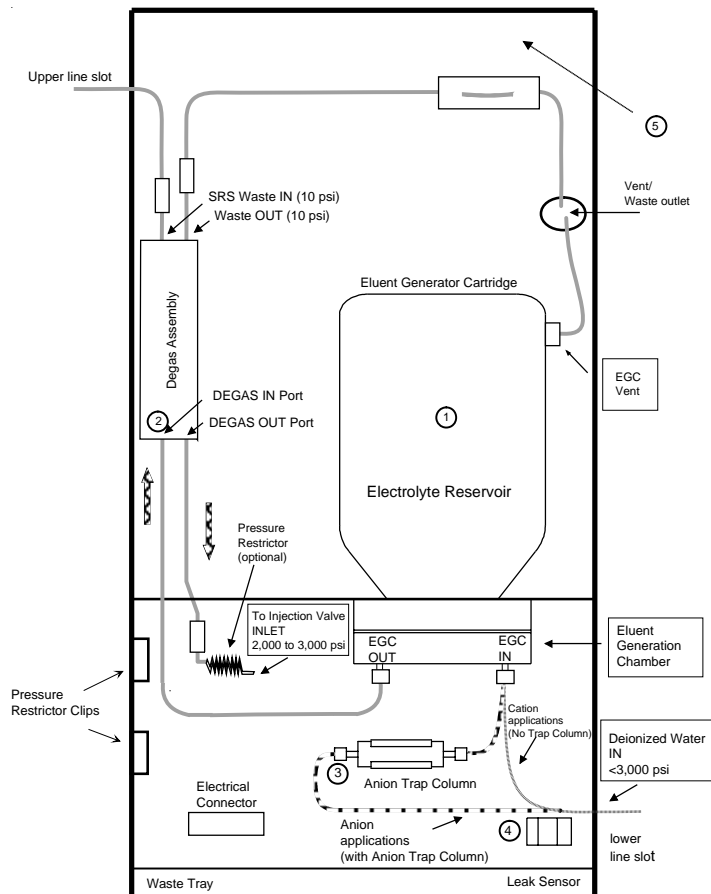

Figure 6
The following text is a discussion of the EG40 Module mechanical components illustrated in Figure 6, “EG40 Module Interior”:
13. Connect the EluGen Cartridge electrical connector to the EG40 Module connector. The connection is a three prong keyed connection located inside the EG40 Module compartment below the cartridge shelf (see Figure 6, “EG40 Module Interior”). Hold the EluGen Cartridge connector in your hand with the release tab facing upward. Gently slid the connector into the EG40 slot.